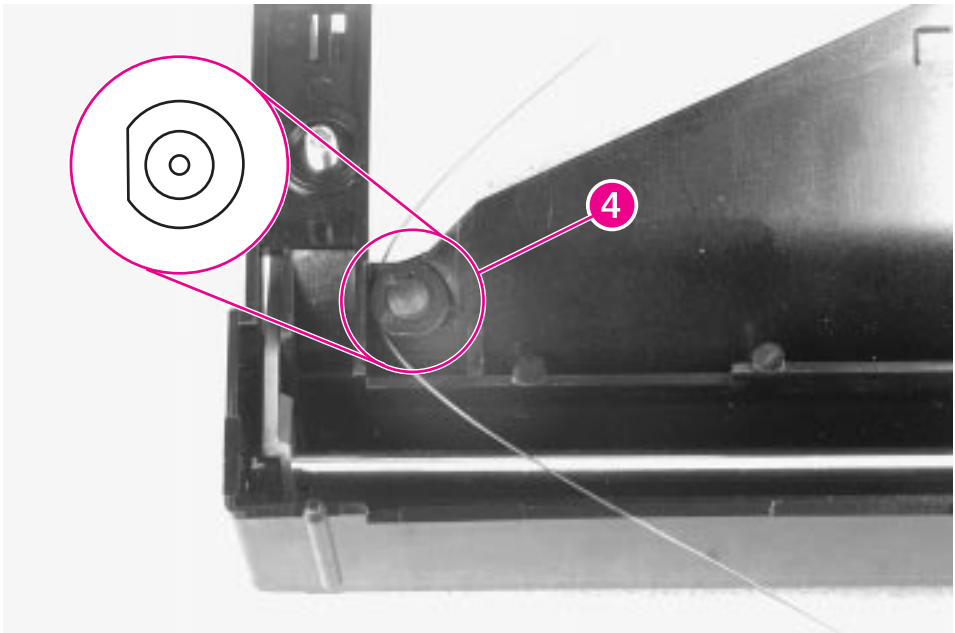

Figure 6-57 Mailbox with Stapler, Delivery Head Pulley Detail
- 8 Release the Anti-Curl Strings from the pulleys on the back of the assembly (figure 6-57, callout 4) by removing the mounting pin from the center.